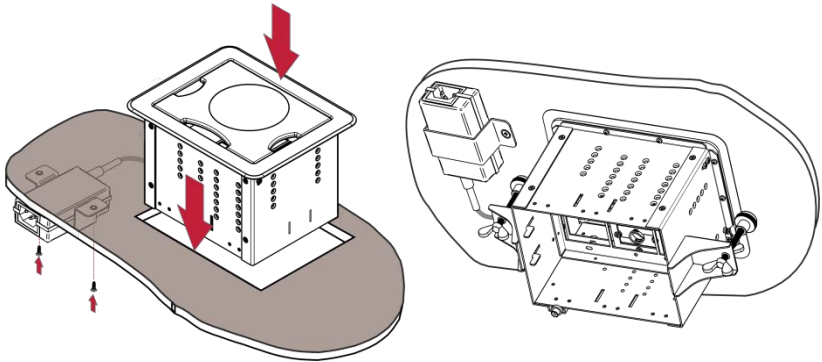

Figure 10: Inserting TBUS-1-KWC into the Prepared Opening
2. Carefully insert the unit into the prepared opening (see Figure 10).
6. Tighten both mounting butterfly screws upward until they reach the table surface (from underneath). Tighten firmly (see Figure 10).